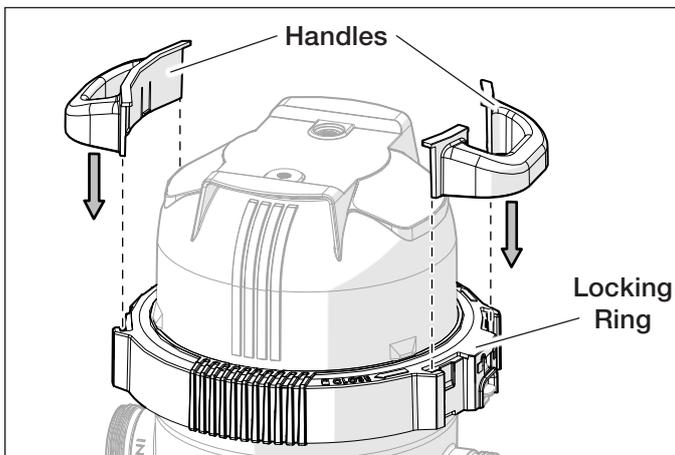

Figure 3. Handle Attachments
3. Attach the handles to the filter by sliding vertically into the slots in the locking ring (Figure 3). Press down until you hear the tabs click into place.